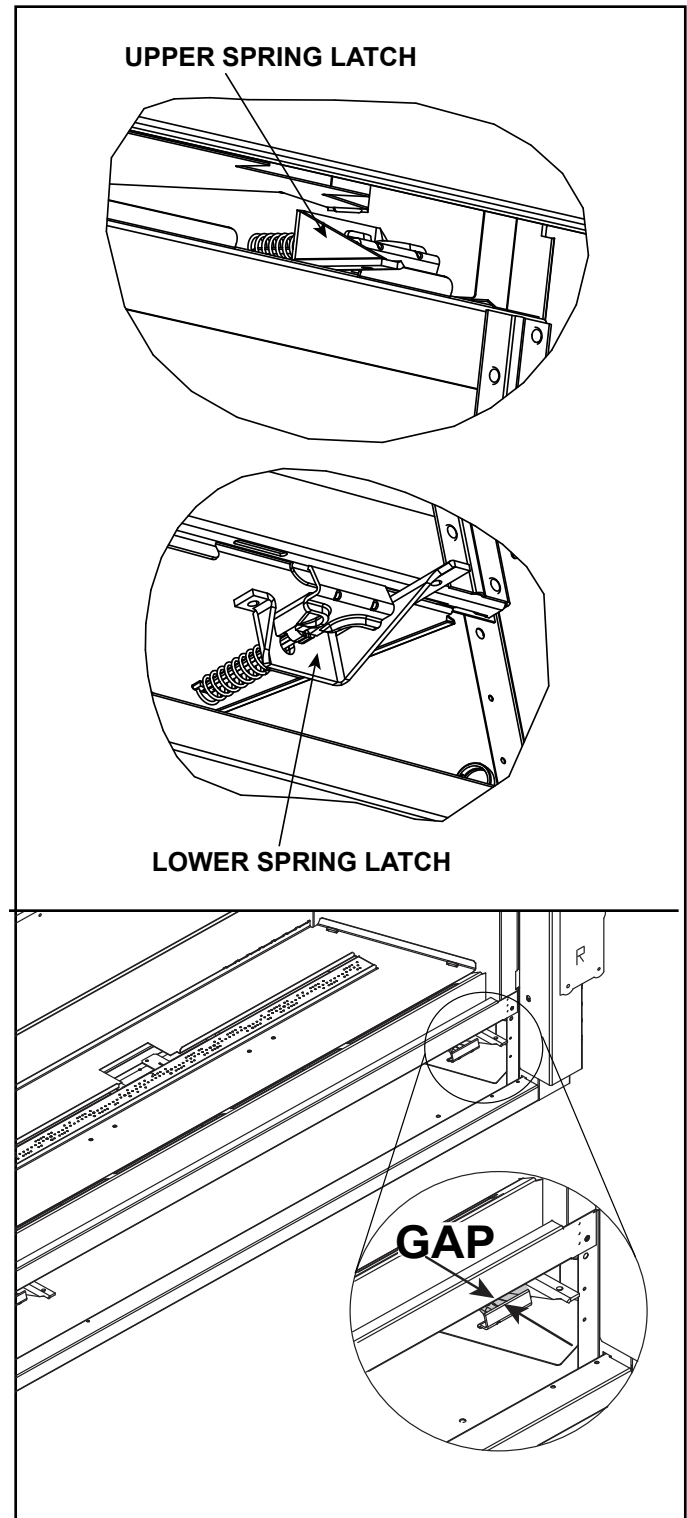

Figure 11.2 Fixed Glass Assembly
2. The glass assembly has two upper spring latches and two lower spring latches. See Figure 11.2. Locate the two spring latches that are on the upper left and right of the fireplace.
**Note:** Observe the presence of a space or gap between the glass latch and the front of the appliance where the bottom of the glass assembly is positioned. This gap is designed for positive placement when replacing the glass assembly. See Figure 11.2.
The bottom glass latches have been designed to create a small gap between the glass clip and the face of the appliance. See Figure 11.2.